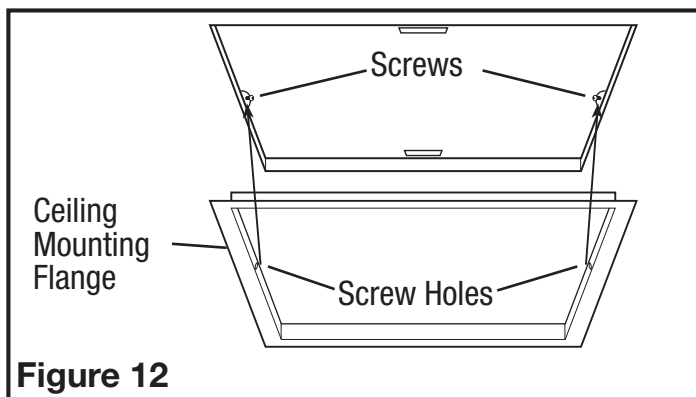

Figure 12
NOTE: If the mounting flange is installed on the fan housing, remove the two screws that connect the ceiling mounting flange to the housing and set aside (Figure 12).
4. Install the ceiling mounting flange to cover any gaps which exist between the housing and the finished ceiling. Remove the two screws that connect the ceiling mounting flange to the housing. Put sealant (not provided) on inside edge of the ceiling mounting flange to ensure that the flange is sealed to the ceiling. Line up the screw holes in the ceiling mounting flange with the screw holes on the inside of the housing and press flange in place so it is tight against the ceiling. Reinstall ceiling flange mounting screws inside the housing (Figure 12).